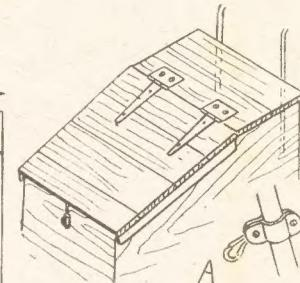

Fig. 3—Details of top and fixing
The remainder of the top covering forms the lid. Join the boards together with side strips of ½in. by 1in. wood, as seen at Fig. 3, and glue and nail the whole securely. Fix the lid to open up with a pair of iron T hinges, as shown, and to the front of the lid fix a hasp to accommodate a padlock fastener.
loop, and be bent and screwed to the fore-end of the trailer, as in the general view of the completed article. A simple form of attachment, to be fitted to the seat pillar of the bicycle, is shown at (A) in Fig. 3. To this is secured a large size dog-hook, which can engage the loop on the towing bar and form a safe connection. Do make sure it is quite safe with no chance of slipping.